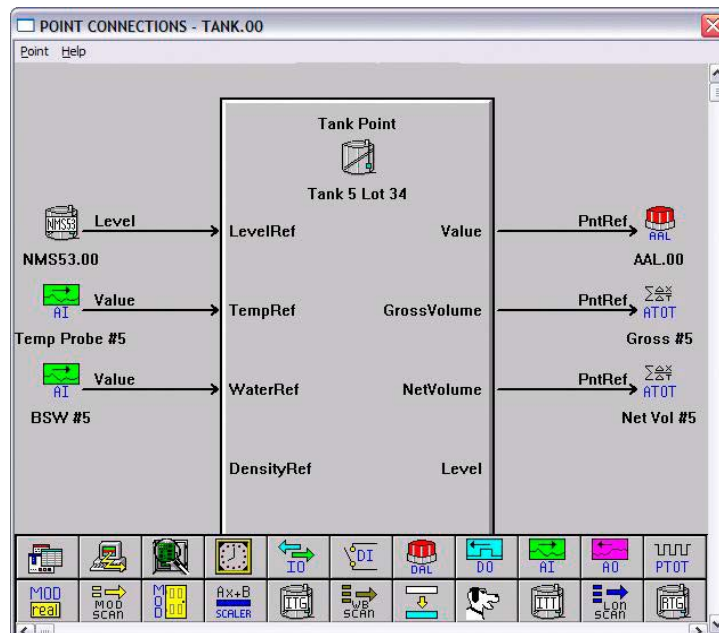

Figure 7-38: Point Connections Window
2. The point icon will appear to the right or left of the selected arrow as seen Figure 7-38.